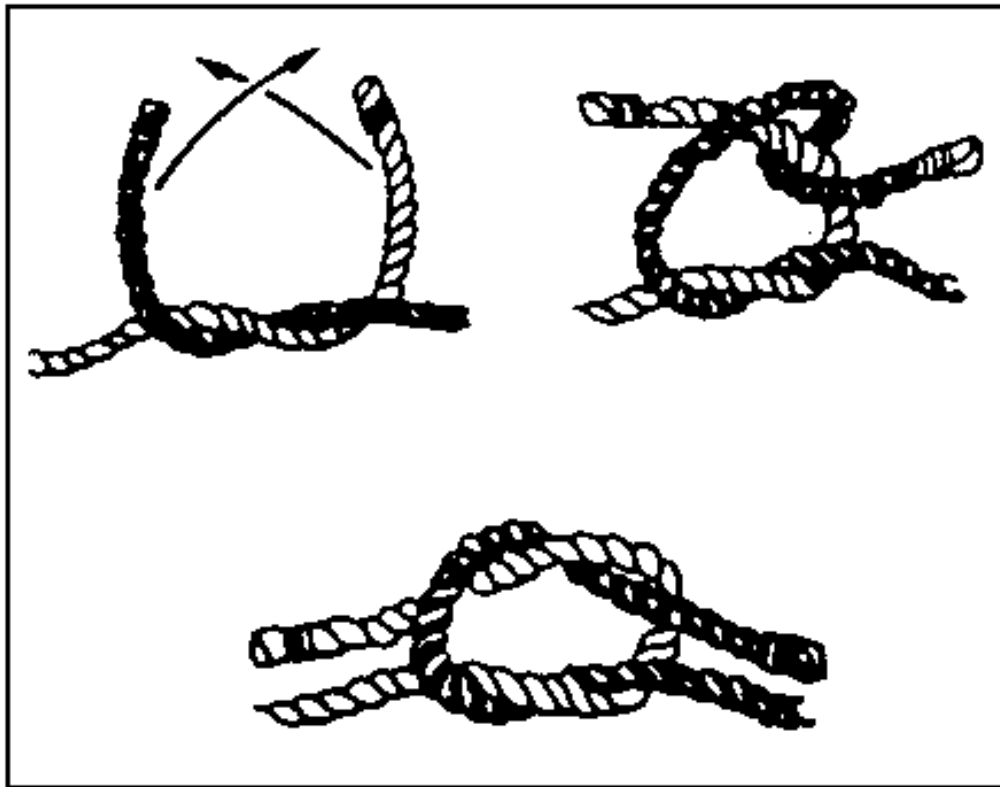

Figure 052-200-1075-1
1. Tie a square knot. (Figure 052-200-1075-1).